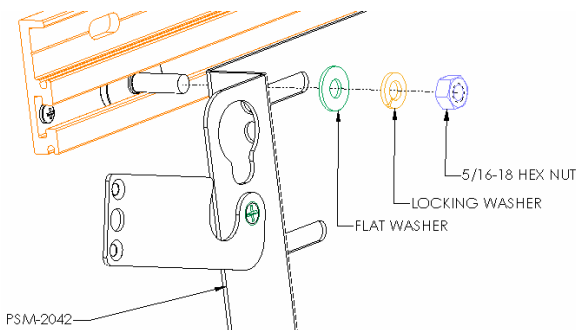
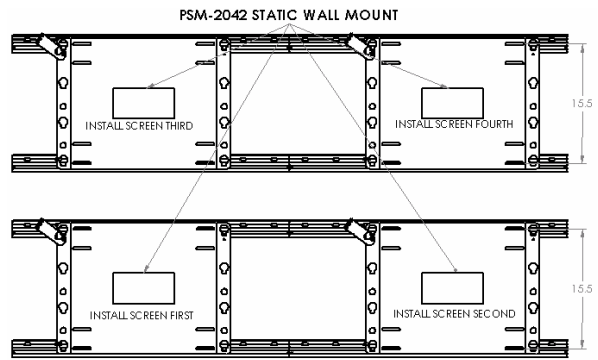

Figure 9
Figure 10
- Install PSM-2042 brackets using regular and lock washers as well as 5/16-18 nuts, making sure to not over tighten the nuts since you will want to slide the screens together to form the 84" array (see Figure 9 & Figure 10).
- With the aid of another person, lift the first display up to the lower left mount. Align the mounting buttons on the display with the teardrop slots in the mount and set the display into place (see Figure 10).
- Install remaining displays in order shown in Figure 10.